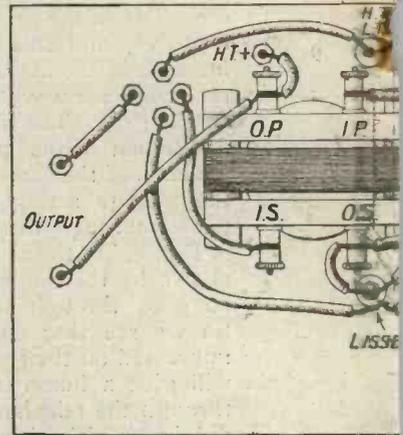

Fig. 3.—The exact arrangements
*makes clear the precise disposition of the wiring as detailed in conjunction with Fig. 3.*